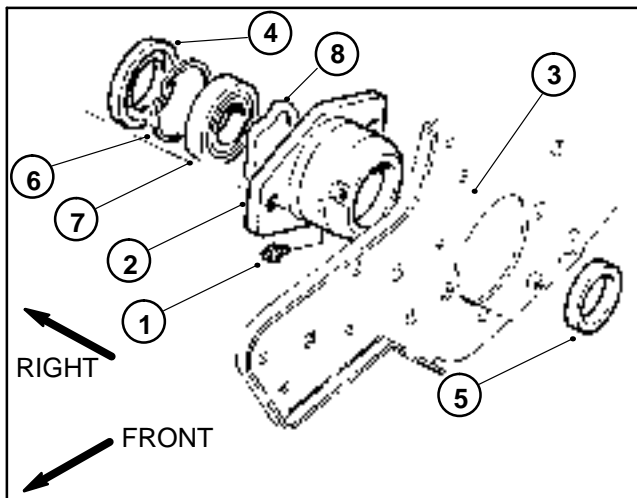
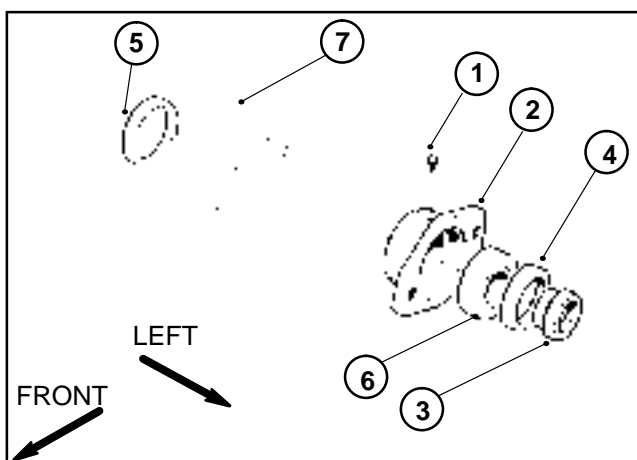

Figure 32
Figure 33
5. Remove grease fittings from both bearing housings. Mark bearing housing (RH) for reassembly purposes (Fig. 32 and 33).
6. Remove the the bearing lock nut from the reel drive shaft as follows (Fig. 33):
7. Pull both bearing housings from the frame and reel (Fig. 32 and 33). Remove the reel from the mower.
A. Remove bearing seal, retaining ring, bearing, and wave washer from the bearing housing (RH). Discard wave washer (Fig. 32).
B. Remove large seal, small seal, and bearing from the bearing housing (LH) (Fig. 33).
2. Reassemble bearing housing (RH) components (Fig. 32).
- A. Bearing housing (RH) should be marked from disassembly.
3. Reassemble bearing housing (LH) components (Fig. 33).
**Note:** The two bearing housings are similar in appearance but can not be interchanged. The bearing housing (RH) was marked prior to removal.
5. Attach bearing housing (RH) through the frame onto the reel shaft (Fig. 32).
6. Attach bearing housing (LH) through the frame onto the reel shaft (Fig. 33).
7. Install the bearing lock nut to the reel shaft as follows (Fig. 33):
8. Reinstall grease fittings to both bearing housings. Lubricate both housings with No. 2 multipurpose lithium base grease (Fig. 32 and 33).